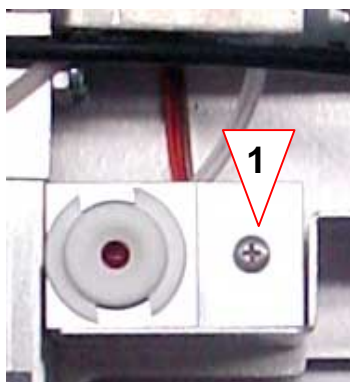

Fig. 4-17 AQC wash port
4. Open the screw (see Fig. 4-17, 1) and remove the wash port angle.